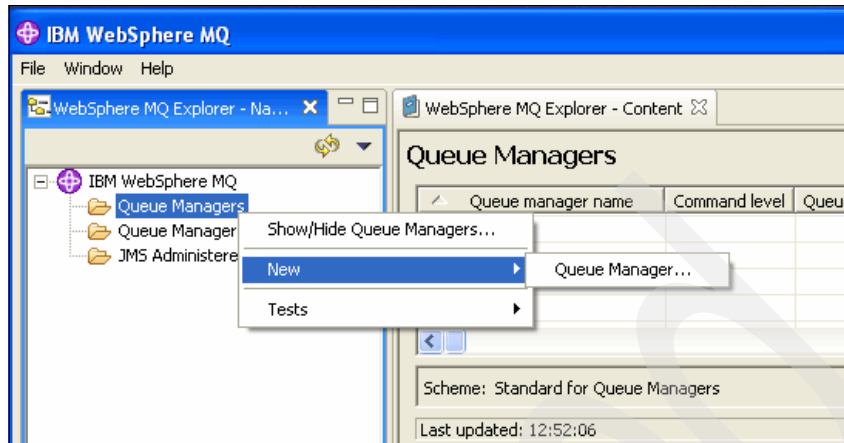

Figure 10-6 New queue manager menu navigation
2. Create the queue manager to be used in the example. Right-click **Queue Managers** and select **New** → **Queue Manager** (Figure 10-6 on page 673).